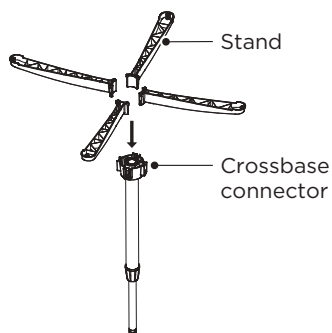

Fig.2
- 2 Insert 4 stands into the crossbase connector. Ensure the stands are well fixed into the connector.(Fig.2,3)